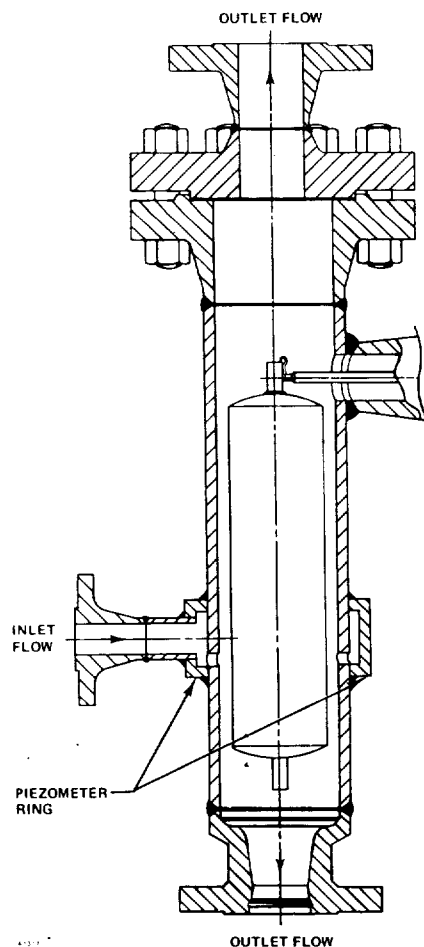

Figure 3. Piezometer-Ring Cage Mounted in Flow Line
**Type 259B**—ANSI Class 150, 300, or 600 steel cage with screwed or flanged connections and nonrotatable head. A special version of this type uses a piezometer ring (figure 3) to eliminate velocity effects caused by liquid passing through the displacer cage when it is desired to measure the specific gravity of a liquid in a flowing line, and when the fluid velocity exceeds two feet per minute past the displacer in the cage.